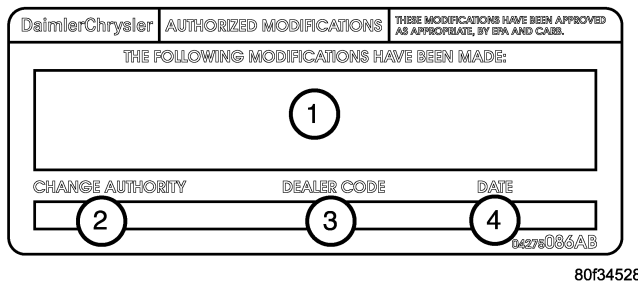

Fig. 1 AUTHORIZED MODIFICATION LABEL
15. Type the necessary information on the "Authorized Modification Label" p/n 04275086AB and attach near the VECI label (Fig. 1).